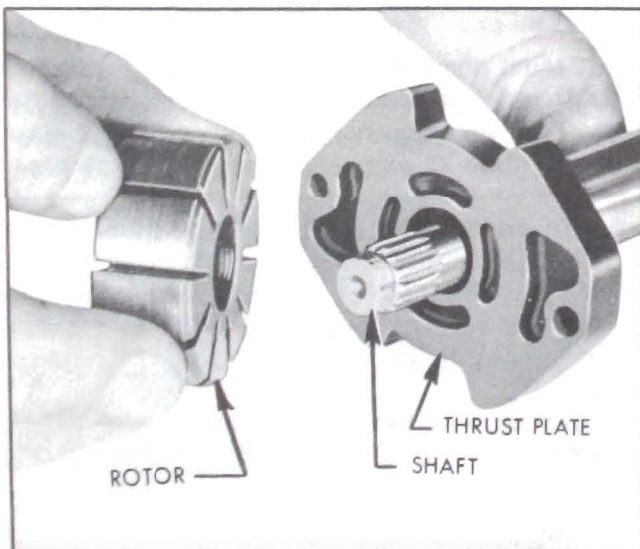

Figure 8-69—Assembling Shaft to Thrust Plate and Rotor
3. Assemble shaft to thrust plate (ported face of thrust plate toward splined end of shaft) and rotor. See Figure 8-69. Install retaining ring on end of shaft, being careful not to damage rotor. Rotor must be free on shaft splines.